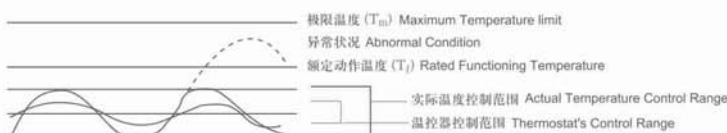

图 1 Fig.1
- 应用产品必须经过测试以确定当出现任何异常状况时都不会使温度保险丝周围温度超过极限温度（Tm），这种状况可能出现在一种称为“余热过冲”的状况下。例如：一个热风机在进风口或出风口堵塞时引起温度升高到 Tf，这时温度保险丝断开电路，但是，一个不正确的设计可能会引起装置提前开路和过度的余热过冲可能会损伤保险丝，应用产品须经测试以确定在正常的温度波动状态（如控温器的动作与复位引起的加热器温度波动）下，温度保险丝周围温度在控温器的通断循环中不会达到 Tm。（见图 1）
- The end product should be tested to ensure that potentially abnormal conditions do not exposed the thermal cutoff to the temperature exceeding its Tm. This condition may occur in an "overshoot" situation. For example, an air heater may be subjected to a blocked inlet or outlet condition on attaining its Rated functioning temperature, the thermal cutoff will open. However, an incorrect design may cause the premature opening of the device and excess overshoot may cause shooting or damage to the thermal cutoff. The end product should be tested to ensure that under normal cycling condition (such as cycling of a thermostat), the thermal cutoff never reaches its Tf during the "on" or "off" cycle. (see Fig.1)